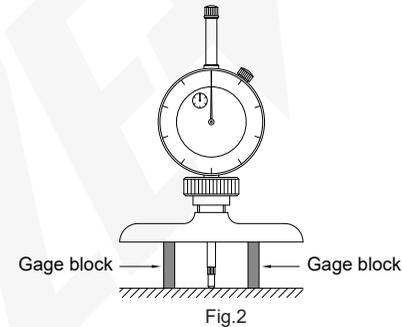

Fig.2
- Do calibration with calibrate tool or two same size gage blocks (Fig.2), make the long pointer points the zero through adjusting the indicator's vertical position or rotate the bezel, measure it several times to make sure that it is properly zero set.